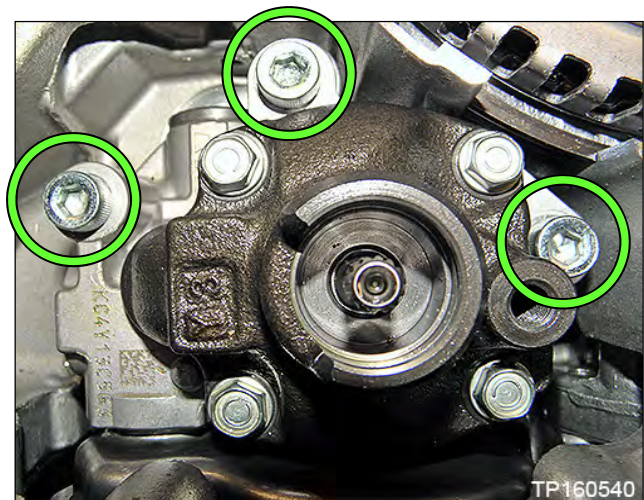

Figure 52
- b. Remove the three (3) oil pump Allen®-head bolts, and remove the oil pump (Figure 52).